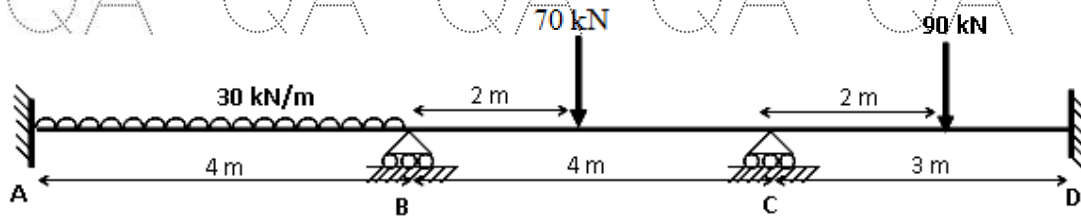

Figure 2
3. Using Kani's method, analyse the continuous beam supported and loaded as shown in Figure 2, if the support 'C' settles by 10 mm. Assume $E = 2 \times 10^5 \text{ N/mm}^2$ and $I = 80 \times 10^{-6} \text{ m}^4$. [10]